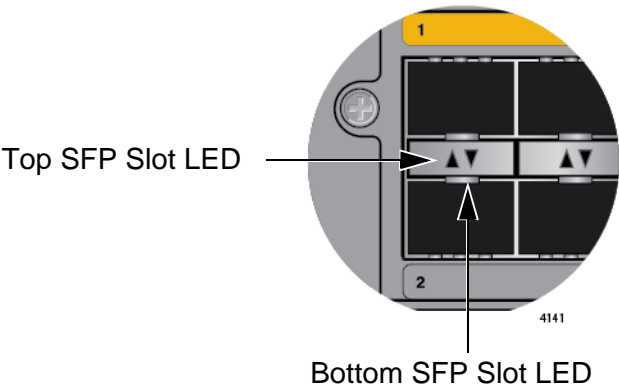

Figure 24. Port LEDs for the SFP Slots on the AT-SBx81XLEM Line Card
**LEDs** Each SFP slot on the AT-SBx81XLEM Line Card has one LED. The LED is shown in Figure 24 on page 50 and described in Table 12 on page 50.